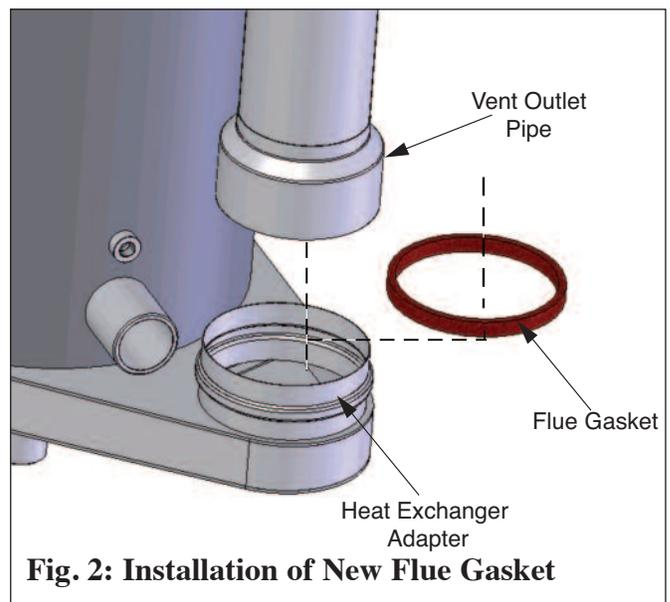

Fig. 2: Installation of New Flue Gasket
7. Remove the flue gasket from the heat exchanger adapter and replace it with a new gasket included in the kit, see Figure 2.
1. Apply some clean water along the heat exchanger flue gasket prior to inserting the new PP vent outlet pipe. Use a downward twisting motion to seat the new PP vent outlet pipe into the heat exchanger adapter (Fig. 2).